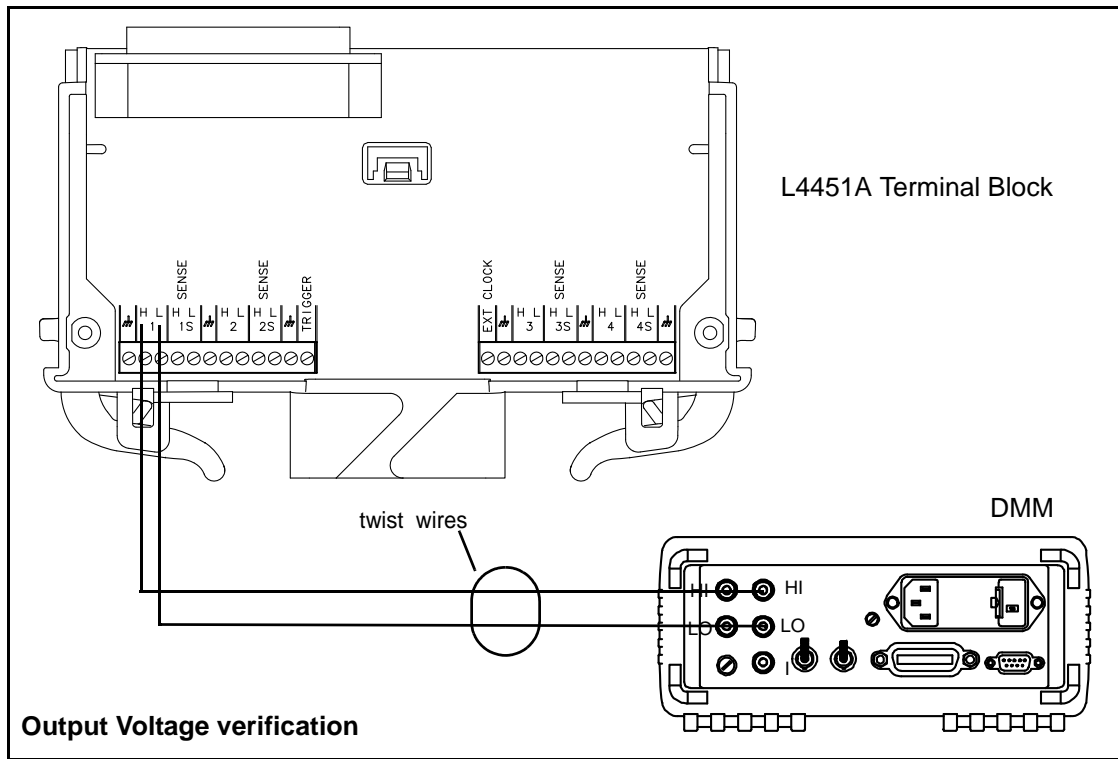

Figure A-2. L4451A Output Voltage Connections.
- 3 Connect channel 1 of the L4451A as shown in Figure A-2. Configure the L4451A to output the voltages listed in Table A-2. For each voltage level measured, subtract the offset voltage recorded in Step 2 as applicable. The results should be within the limits listed in Table A-2.
- 4 Connect channel 1 of the L4451A to the DMM as shown in Figure A-2. Set the DMM to measure DC volts.
- 8 Separately connect L4451A channels 2, 3, and 4 to the DMM as shown in Figure A-2. Repeat Steps 5 through 7 for each channel until calibration points 1 through 9 have been measured and entered.